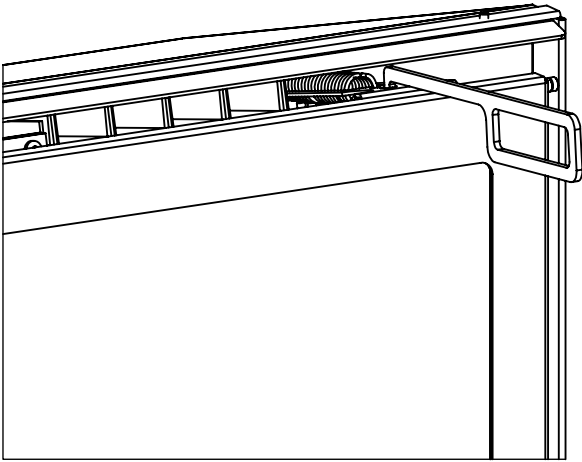
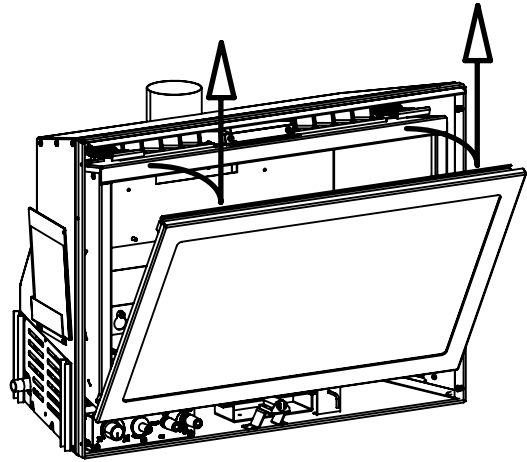

Figure 8: Door Release.
Figure 9: Door Removal.
Remove the glass door by placing the hooked end of the door release tool in the hole on the door latch mechanism (see Figure 8) and pulling the latch out then up over the lip on the door. When the two (2) latches have been released, tilt the door forward and then lift up to unhook the bottom door tabs (see Figure 9).